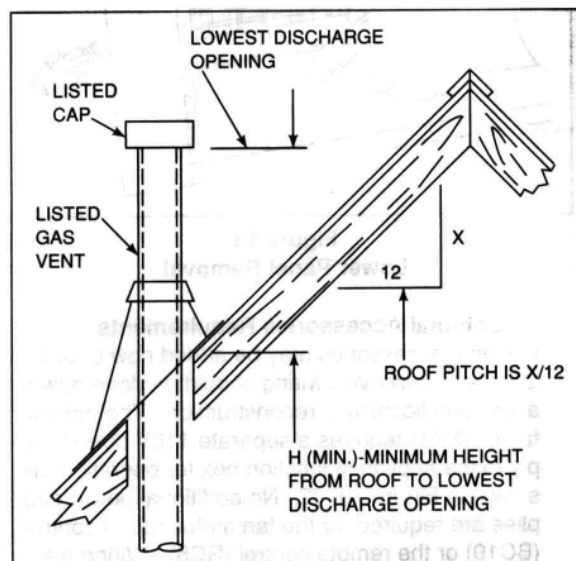

Figure 15
6. Marking the exit point in the roof. Locate the point where the chimney will exit the roof by plumbing down to the center of the chimney. Drive a nail up through the roof to mark the center. See Figure 15.
10. Termination cap. Major building codes specify a minimum chimney height above the roof top depending on roof pitch. See Figures 15 and 16.